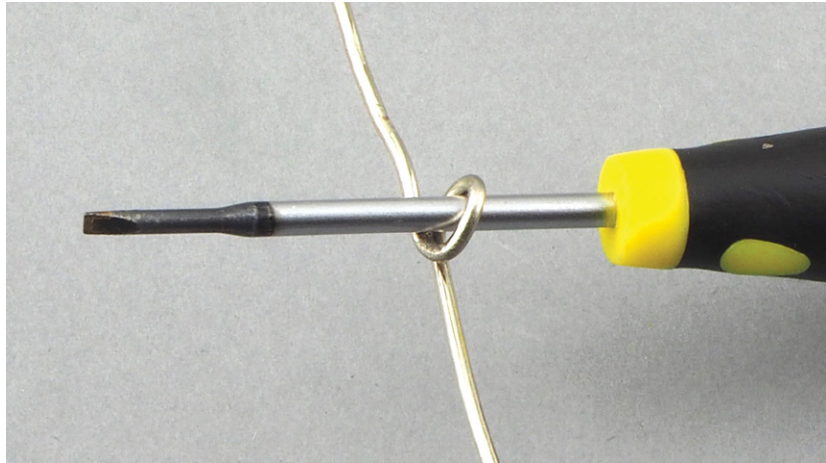

Figure 6-19: Using a screwdriver to bend a loop in the servomotor-to-eyeball connector
18. To make the loop in the center of the wire, wrap the wire tightly around a small screwdriver shaft (shown in Figure 6-19). The diameter of the screwdriver I used was about 3 mm, making the outside diameter of the little loop around 5 mm. Use a screwdriver with a sharp end that's narrower than the shaft, or it will be hard to slide the wire off once it's been bent. Make sure to straighten the legs of the wire as shown.